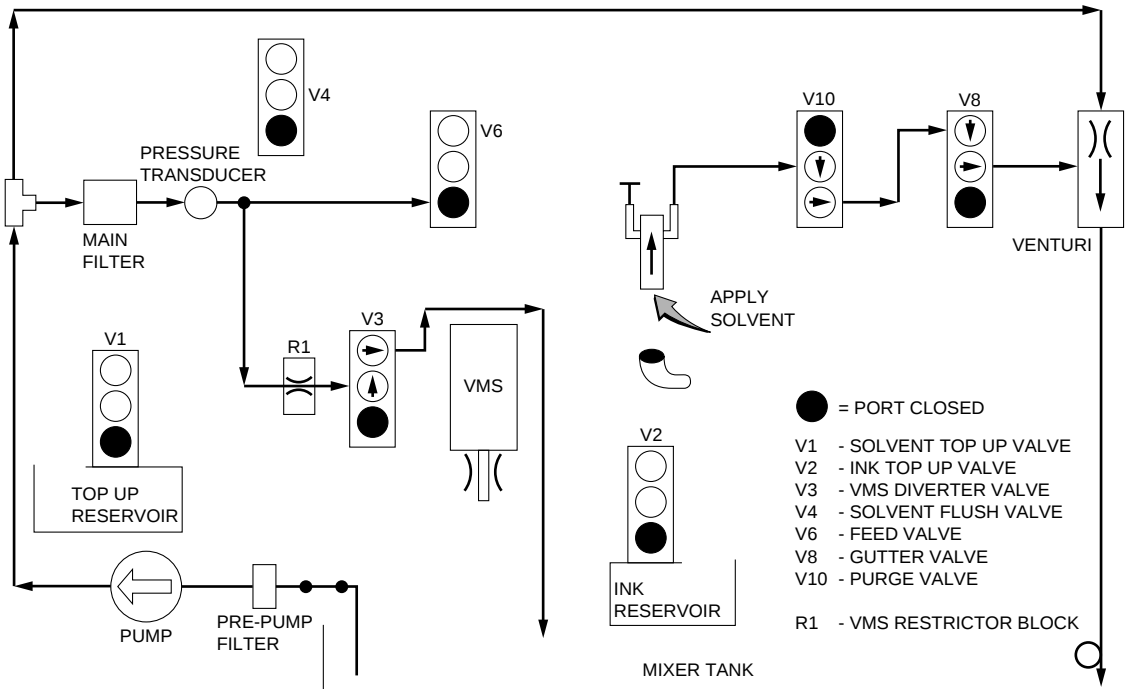

Fig 10.32 Nozzle flush
- 67** When 'Nozzle flush' is selected, V10 is energised. The vacuum from the Venturi is applied to the return side of the nozzle, creating suction at the nozzle orifice. Solvent is applied to the nozzle orifice to clear any blockage (Fig 10.32).